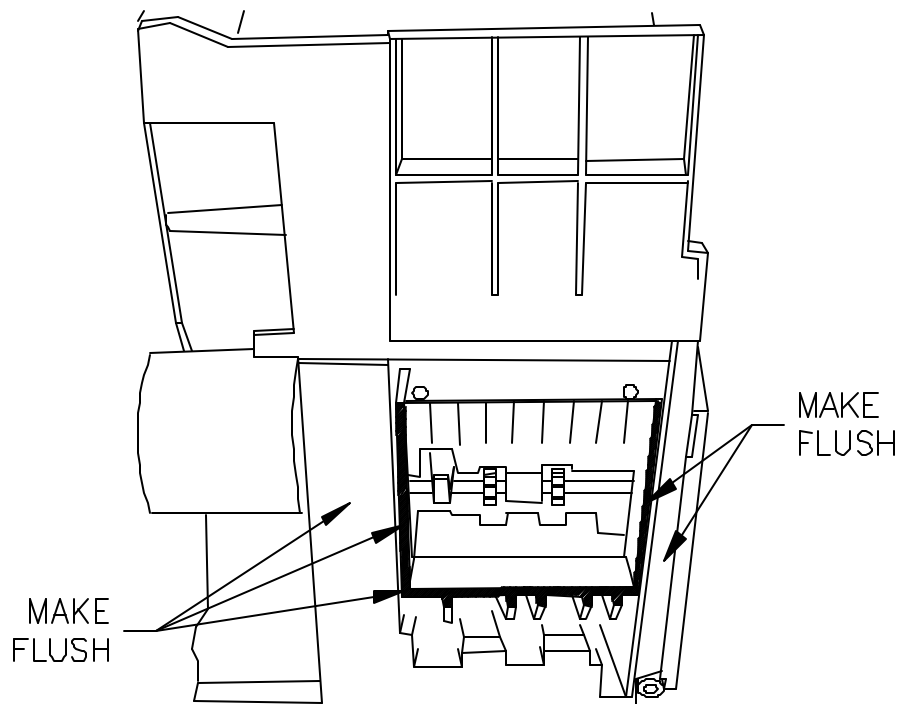

Fig. 5
7. Make the output throat flush with the surrounding black plastic surface by removing the beige plastic walls as shown below (Fig. 5). Do not allow any dust or chips to enter the machine at any time. Clean the area with a vacuum (not compressed air) before proceeding to the next step. **Note : Only a professionally trained machinist may perform this step. Failure to use a professionally trained machinist could result in personal injury.**